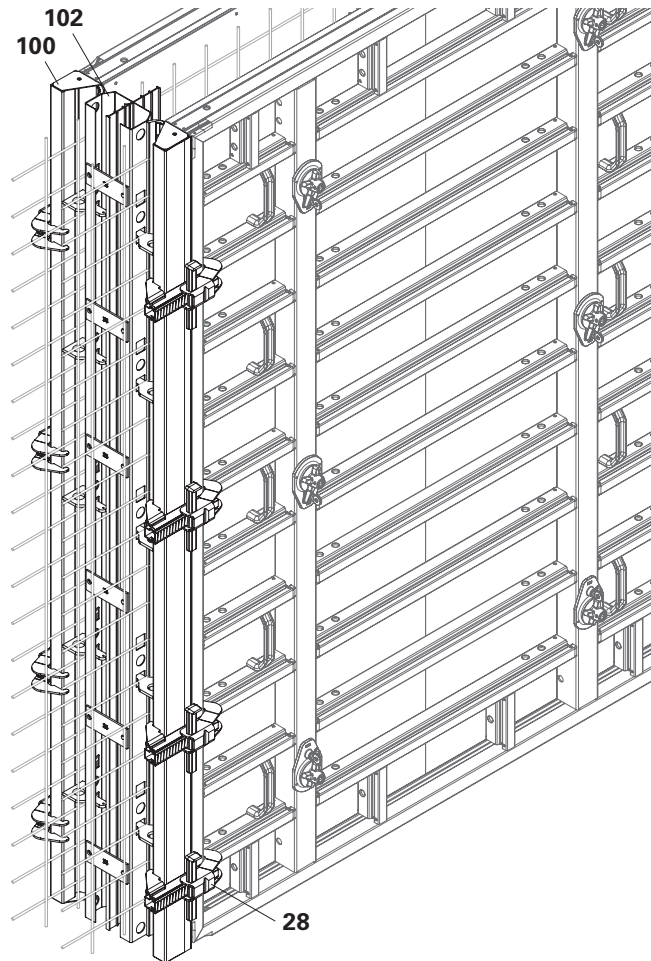

Fig. D9.10
2. Fix Stop. Panel TRIO AT (100) to the primary formwork by means of the Alignment Coupler BFD (28).
4. Position Stop. Panel TRIO MTF (102) and fit the water bar (102.1).
6. Fix Stop. Panel TRIO AT (100) to the closing formwork by means of the Alignment Coupler BFD (28).
7. Position the closing formwork and in doing so insert Stop. Panel TRIO AT (100) into Stop. Panel TRIO MTF (102). (Fig. D9.10)